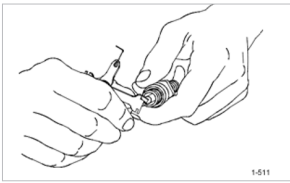

Figure 4-9
- Use a gapping tool to gently bend the side electrode closer to or farther from the center electrode to set the correct gap. See Figure 4-9. Position the side electrode directly over the center electrode.